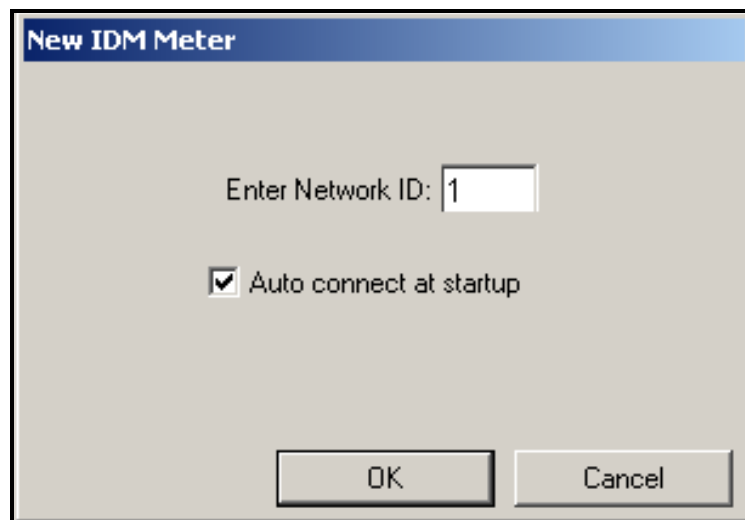

Figure C-5: *New IDM Meter* Screen
4. The *New IDM Meter* screen (shown in Figure C-5 below) opens. Enter the Network ID number for the meter, and click [OK].